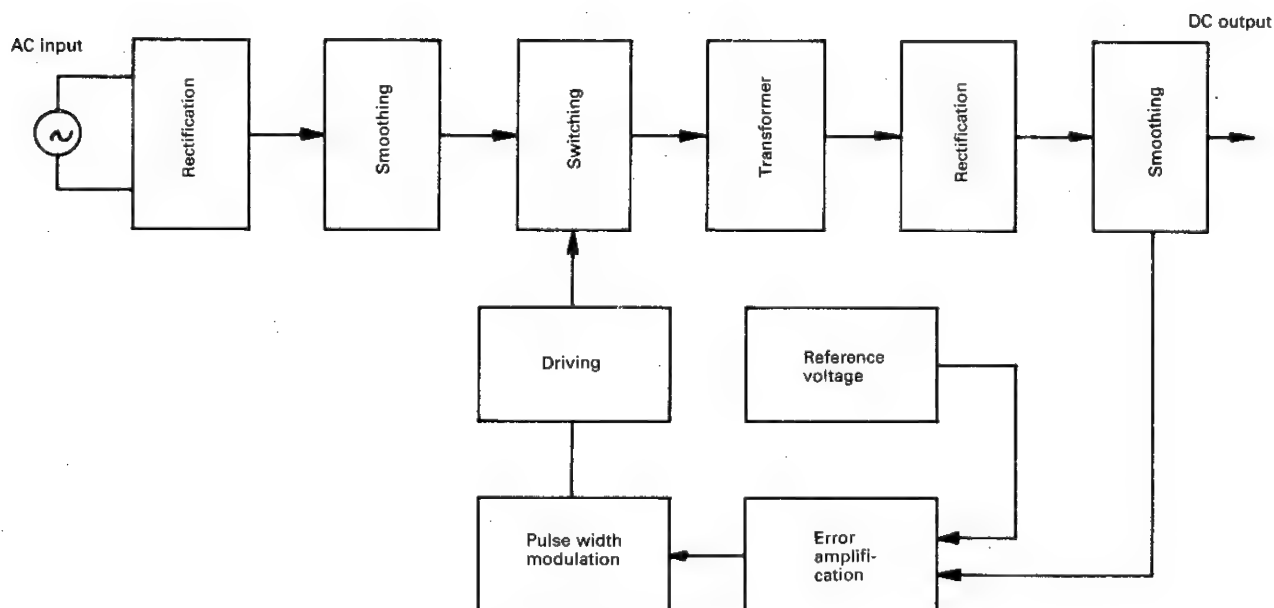
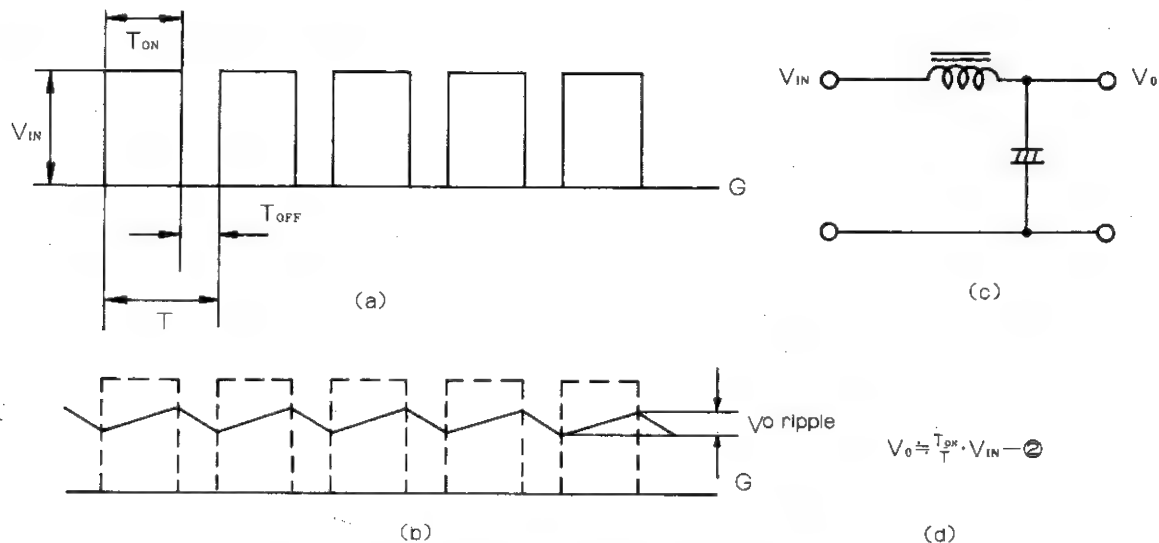

Figure 7-1 Block Diagram
Figure 7-2 Choke Input Type Smoothing Circuit
As shown in the block diagram of Figure 7-1, AC input is connected to the condenser input type smoothing circuit by way of the rectifier. The DC output thus obtained is activated by two transistors alternately like a seesaw to change the direction of the current and make the pulse (square wave) AC. At this time, the driving frequency of the transistor is set at more than 20 kHz, an ultrasonic range inaudible to human ears. Basically, the switching regulator is simply the embodiment of what
When the transistor controlled ON-OFF duty voltage (Figure 7-2 (a)) is applied to the choke input type smoothing circuit like Figure 7-2 (c), the output voltage V_0 shown in the equation ② (in Figure 7-2 (d)) can be obtained unless the current running in the choke is made intermittent. As shown in Figure 7-1 block dia-